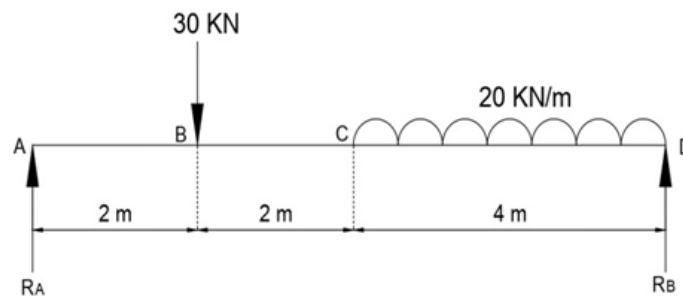

Figure 2
- 2a) Draw SFD and BMD of simply supported beam loaded as shown in figure 2. Also locate the point (6) CO2